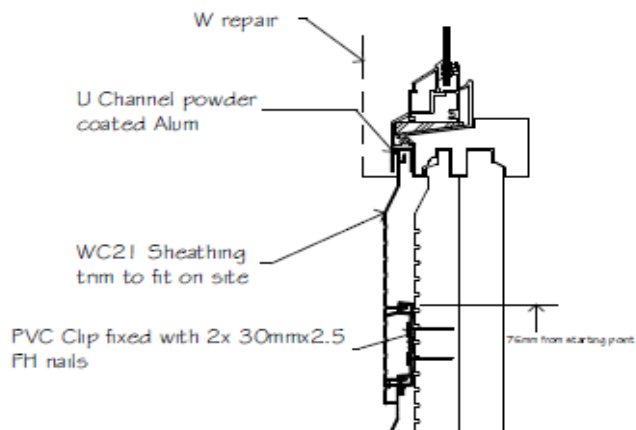

Fig.10
- The story rods will also determine the height of the cladding below window sills, it will be unusual to finish with a full board under joinery frames. This will require the trimming of the top of the cladding, and the use of the U channel (refer to Fig.10).
- Continue placing cladding and clips up to the underside of the window joinery (See Fig.10). The cladding under the window joinery will require cutting to correct height before fitting.
- A U channel is used on the joinery cill where part of a cladding board has been used. See Fig.10